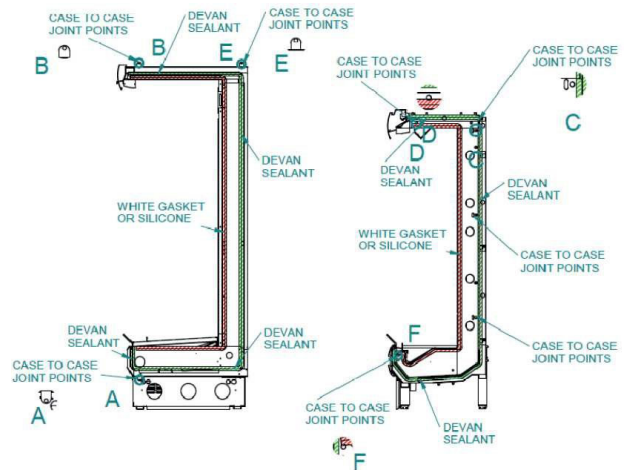

Figure 1
1. Surface must be clean, dry, and free of debris. Apply Devan Sealant to RGDC case sides along joint faces. (See Figure 1)
2. Identify Alignment/Bolting points provide as shown. (See Figure 1)
5. Once bolting is complete. Apply silicone to wrapper case joints. (See Figure 1)